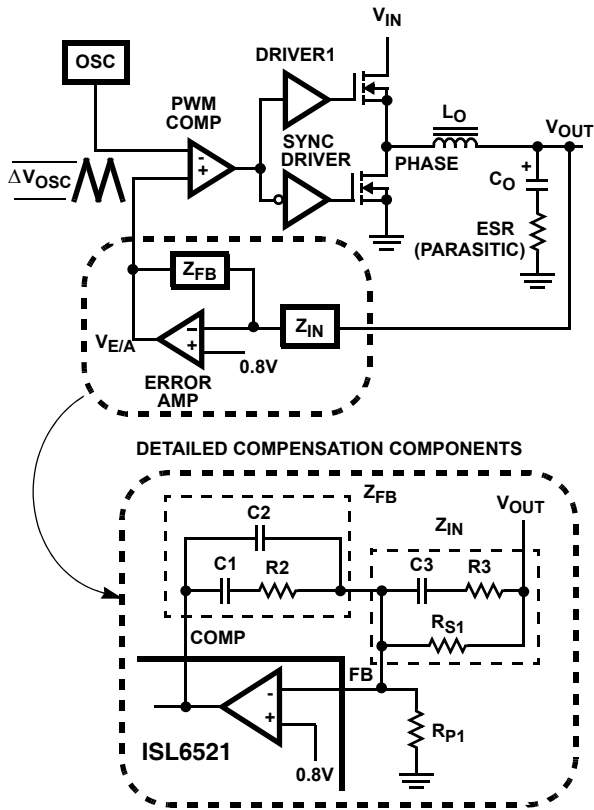
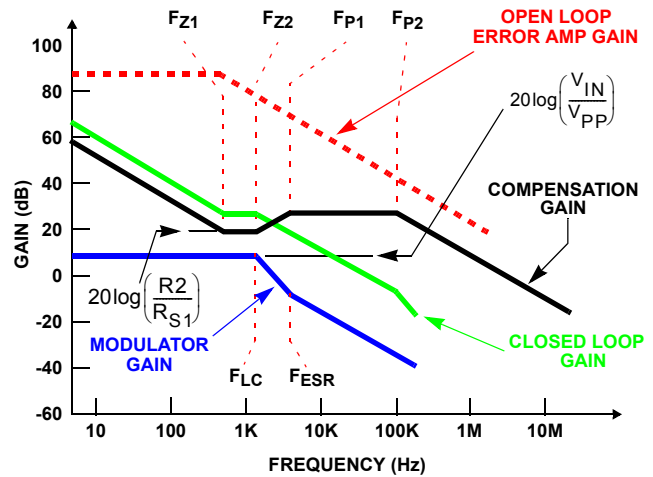

FIGURE 5. VOLTAGE-MODE BUCK CONVERTER COMPENSATION DESIGN
FIGURE 6. ASYMPTOTIC BODE PLOT OF CONVERTER GAIN
Figure 5 highlights the voltage-mode control loop for a synchronous-rectified buck converter. The output voltage (V_{OUT}) is regulated to the reference voltage level, 0.8V. The error amplifier (Error Amp) output ($V_{E/A}$) is compared with the oscillator (OSC) triangular wave to provide a pulse-width modulated (PWM) wave with an amplitude of V_{IN} at the PHASE node. The PWM wave is smoothed by the output filter (L_O and C_O).
The compensation network consists of the error amplifier (internal to the ISL6521) and the impedance networks Z_{IN} and Z_{FB} . The goal of the compensation network is to provide a closed loop transfer function with high 0dB crossing frequency (f_{0dB}) and adequate phase margin. Phase margin is the difference between the closed loop phase at f_{0dB} and 180 degrees. The equations below relate the compensation network's poles, zeros and gain to the components (R_1 , R_2 , R_3 , C_1 , C_2 , and C_3) in Figure 5. Use these guidelines for locating the poles and zeros of the compensation network:
Figure 6 shows an asymptotic plot of the DC-DC converter's gain vs. frequency. The actual Modulator Gain has a high gain peak dependent on the quality factor (Q) of the output filter, which is not shown in Figure 5. Using the above guidelines should yield a Compensation Gain similar to the curve plotted. The open loop error amplifier gain bounds the compensation gain. Check the compensation gain at F_{P2} with the capabilities of the error amplifier. The Closed Loop Gain is constructed on the log-log graph of Figure 6 by adding the Modulator Gain (in dB) to the Compensation Gain (in dB). This is equivalent to multiplying the modulator transfer function to the compensation transfer function and plotting the gain.